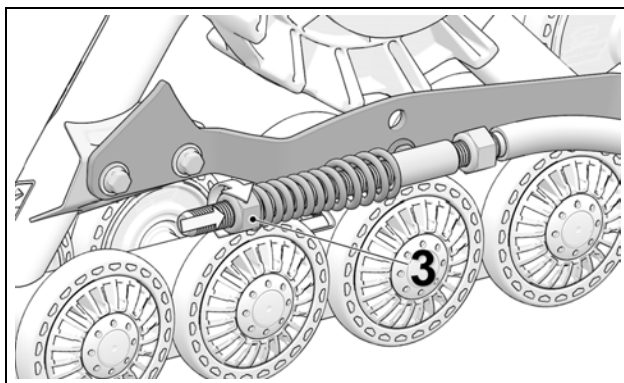

Figure 12
- Turn nut (3) until it comes in contact with spring, then compress spring by rotating nut 1 1/2 turns. See Figure 12.